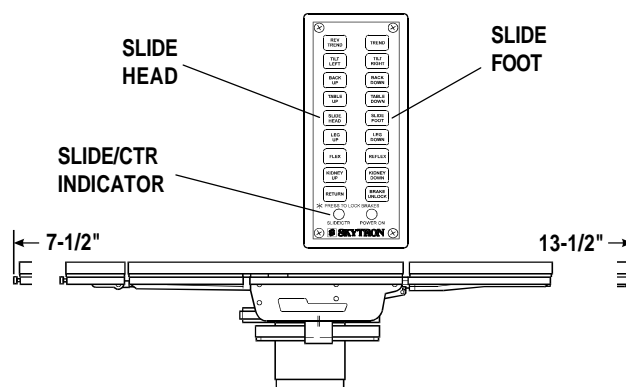

Figure 2-8. Top Slide
f. Top Slide. To move the table top toward the head end, press the SLIDE HEAD button. From center position, the top will slide up to 7-1/2". See figure 2-8.